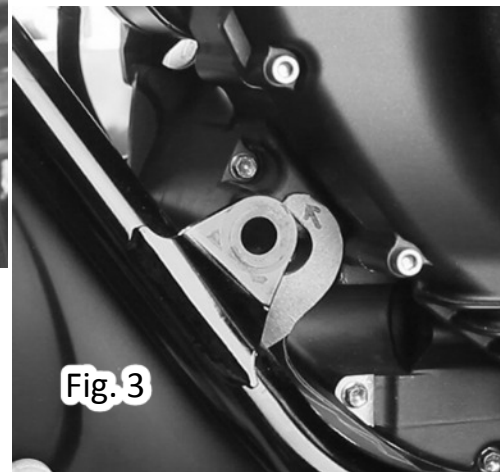

Fig. 3
- 4 Slide the hook on Chin Fairing around frame mounting bracket. Fig. 3